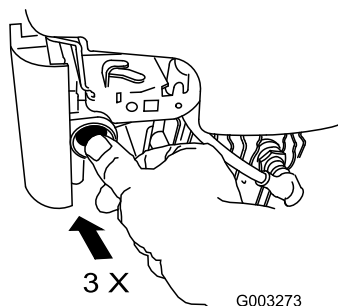

Figure 20
2. Firmly push in the primer 3 times with your thumb, holding the primer in for a second before releasing it each time (Figure 20).